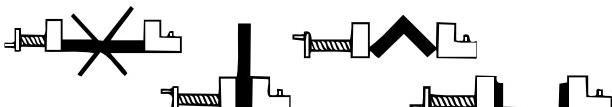

Figure 6 – Clamping The Workpiece
- Clamp the material correctly and ensure that is it centered relative to the blade (*Figure 6*).